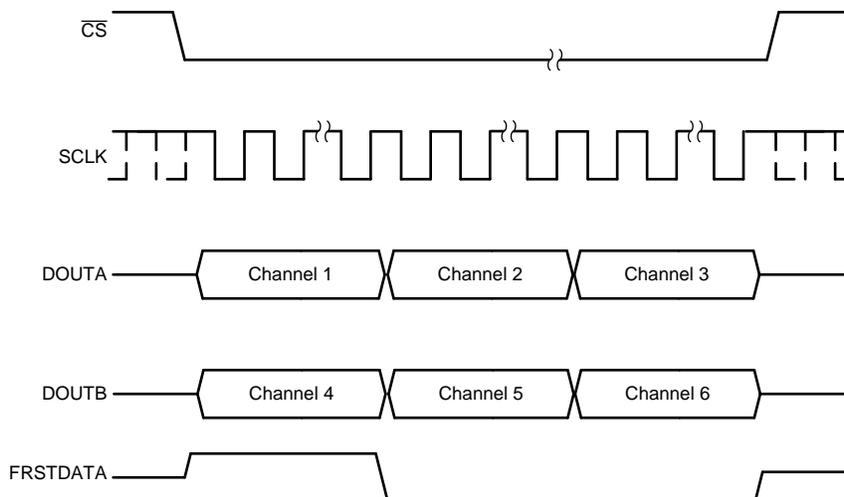

Figure 70. Data Read Back in the Serial Interface Using Both DOUTA and DOUTB Timing Diagram
- In order to minimize the time for the data read operation in serial mode, both DOUTA and DOUTB can be used to read data out of the device. In this case, the conversion results from the first set of channels (channels 1-3 for the ADS8586S) appear on DOUTA and the conversion results from the second set of channels (channels 4-6 for the ADS8586S) appear first on DOUTB. To read the data for all channels, provide a total of  $16 \times 3 = 48$  SCLK cycles for the ADS8586S. This entire data frame can be created within a single  $\overline{CS}$  pulse or each group of 16 SCLK cycles can be individually framed by the  $\overline{CS}$  signal. Figure 70 shows an example timing diagram.